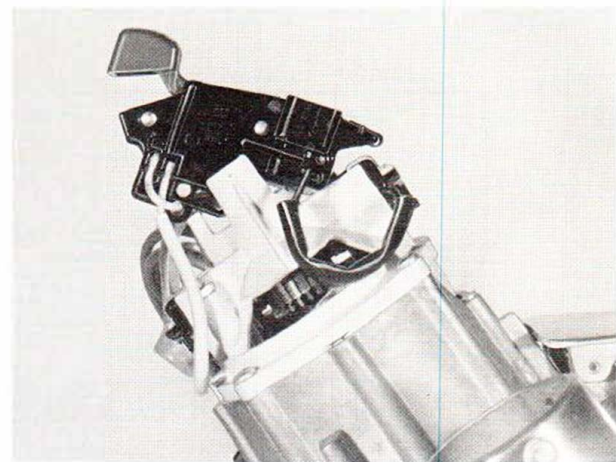

Figure 1-4. Positioning the foot switch in motor bell housing
(1) Position rear wheels (30) on rear wheel shaft (33). Attach "E" clips (31) to the shaft and hubs (29) to the wheels. Secure the shaft to the housing shell with mounting screws (32).
(2) Position the foot switch by pushing it about 3/8 inch into the large notch on the back of motor bell housing (7) to approximate its position. This must be done now because it is difficult to realign the switch after the housing shell is in place. See figure 1-4.